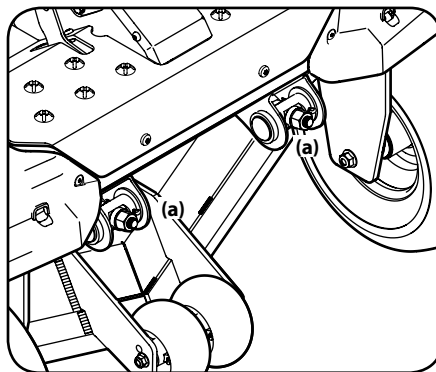

Figure 4-10
5. Using a wrench, raise the front of deck by loosening the lock nuts to the front of the pivot pin (a) and then tighten the jam nuts on the back of the pivot pin (a) to raise the front of the deck and secure in place. See Figure 4-10.
6. Using a wrench, lower the front of deck by loosening the jam nuts on the back of the pivot pin (a) and then tighten the lock nut on the front of the pivot pin (a) to lower the front of the deck and secure in place. See Figure 4-10.